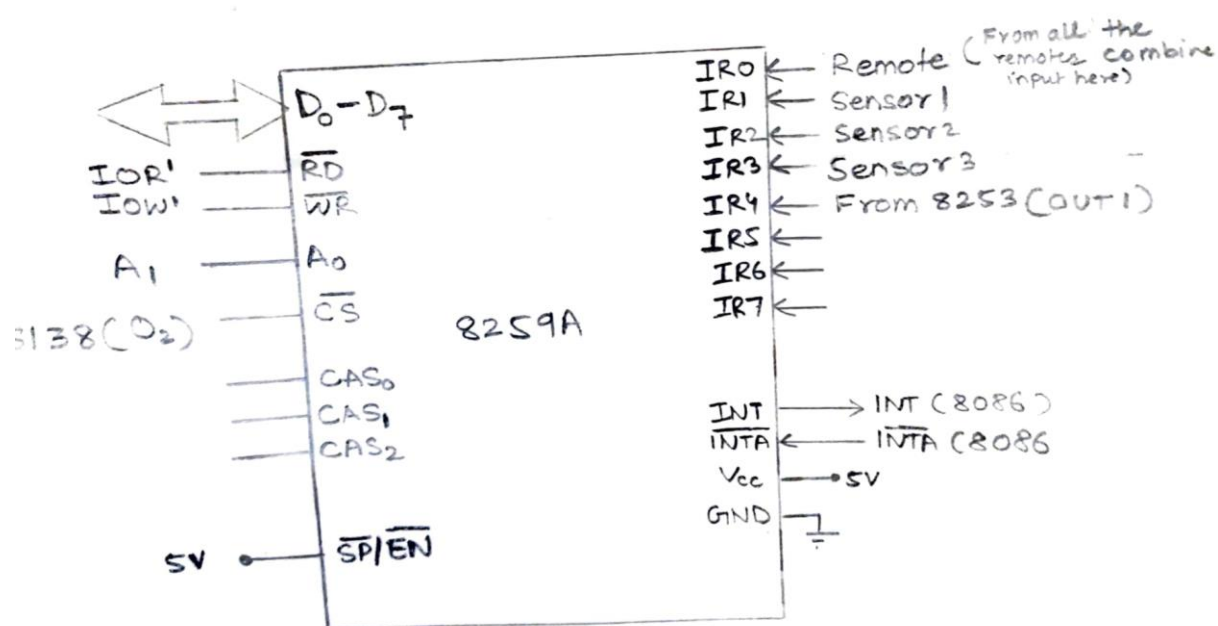

Fig 19.21
12. Priority interrupt controller	(Fig 19.21)